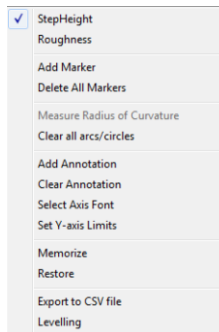

Fig. 64. Right click menu in 2D Line Profile pane
3. In the *2D Line Profile* pane, position the mouse cursor where you would like to put a marker, then right click to bring up the menu shown in Fig. 64.
2. With the cursor in the 2D Composite View, right click to bring up the menu shown in Fig. 64.